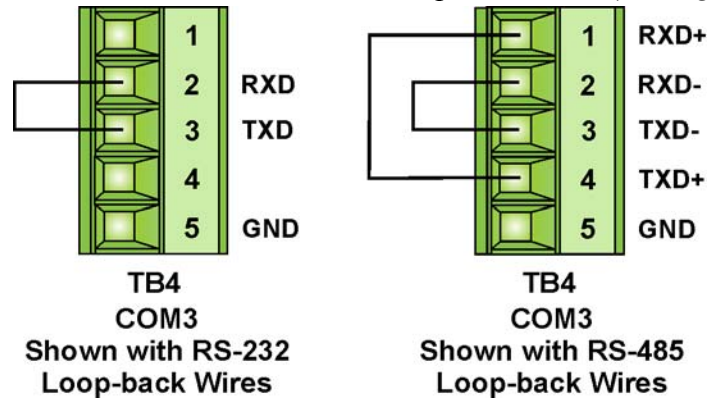

Figure 5-8. COM3 RS-232 & RS-485 Loop-back Wires
- Port 3 - RS-232 use loop-back wires (see *Figure 5-8*).
- Port 3 - RS-485 use loop-back wires or CPU Switch SW3 (see *Figure 5-8*).